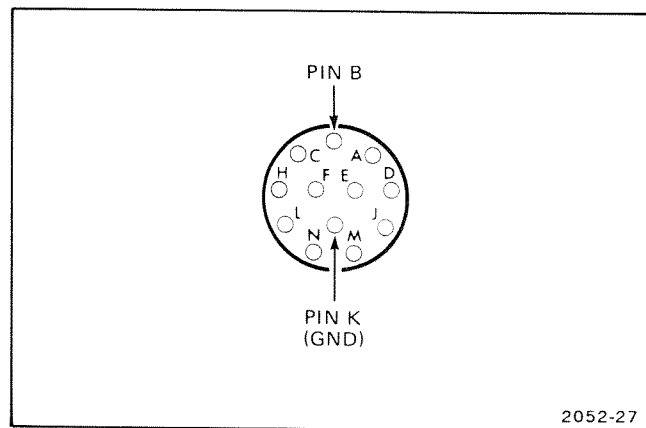

Fig. 5-2. INPUT connector pin designation.
- c. Connect pin L to pin K (ground) on INPUT connector. See Fig. 5-2.